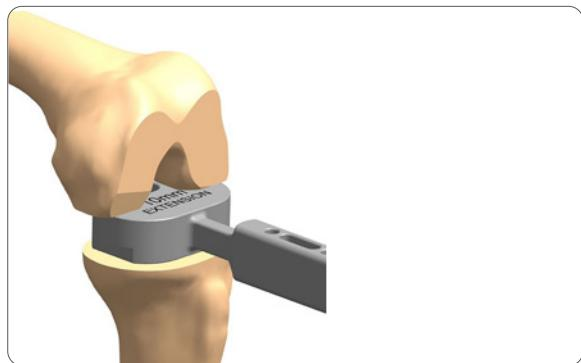

Figure 31
1. The 10mm end of the Extension Spacer Block should easily insert into the flexion gap in 105° of flexion (due to 15° posterior cut) (**Figure 31**).